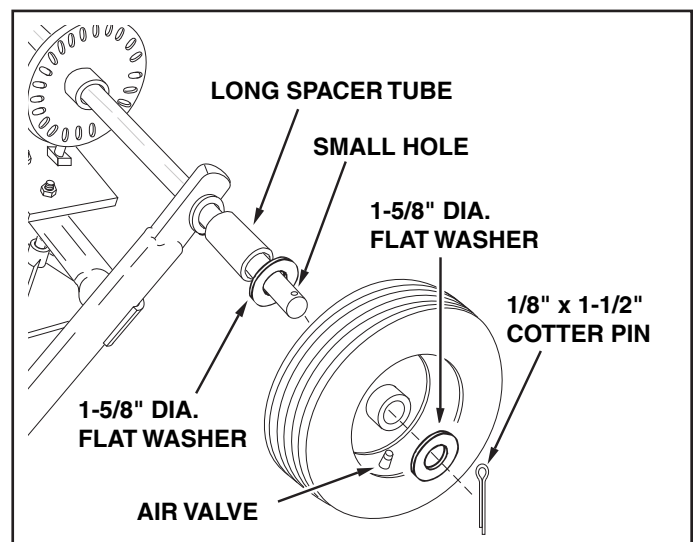

FIGURE 3
7. Assemble the long spacer tube and a 1-5/8" flat washer onto the end of the axle that has the **small hole**. See figure 3.
8. Place the idler wheel (no bolt hole in hub) onto the axle so that the air valve is to the outside. Place one or two 1-5/8" dia. flat washers onto the axle and then install the 1/8" x 1-1/2" cotter pin into the axle. See figure 3.